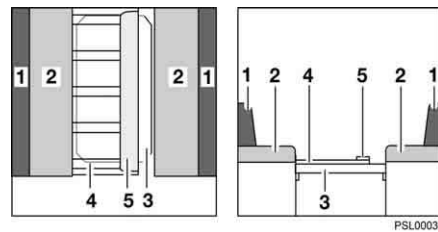

Fig. 40 During conversion
- Fold out the extension (Fig. 40,5) on the slatted frame.
- Pull the seat cushions (Fig. 40,2) into the centre onto the slatted frame.
- Insert the back cushions (Fig. 40,1) between the seat cushions and the exterior wall.